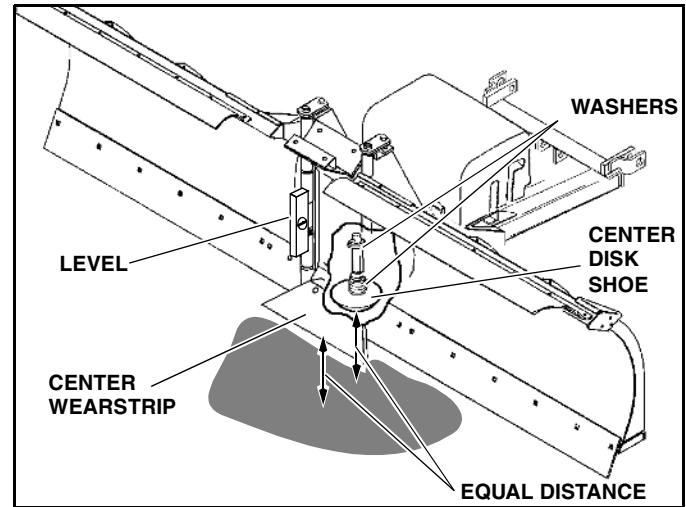

Figure 2-7
**IMPORTANT: This Plow is equipped with three (3) Disk Shoes. To ensure the best function of this Snow Plow, it is a requirement that all three Disk Shoes be used at ALL times. Two Disk Shoes are located at the outboard end of each Wing. The third Disk Shoe is located under the Trip Springs on the Center Plow Assembly. All three Disk Shoes must be adjusted equally.**
5. Determine whether the center Disk Shoe or the center Wearstrip is off the ground and measure the amount that it is off the ground. (See Figure 2-7)